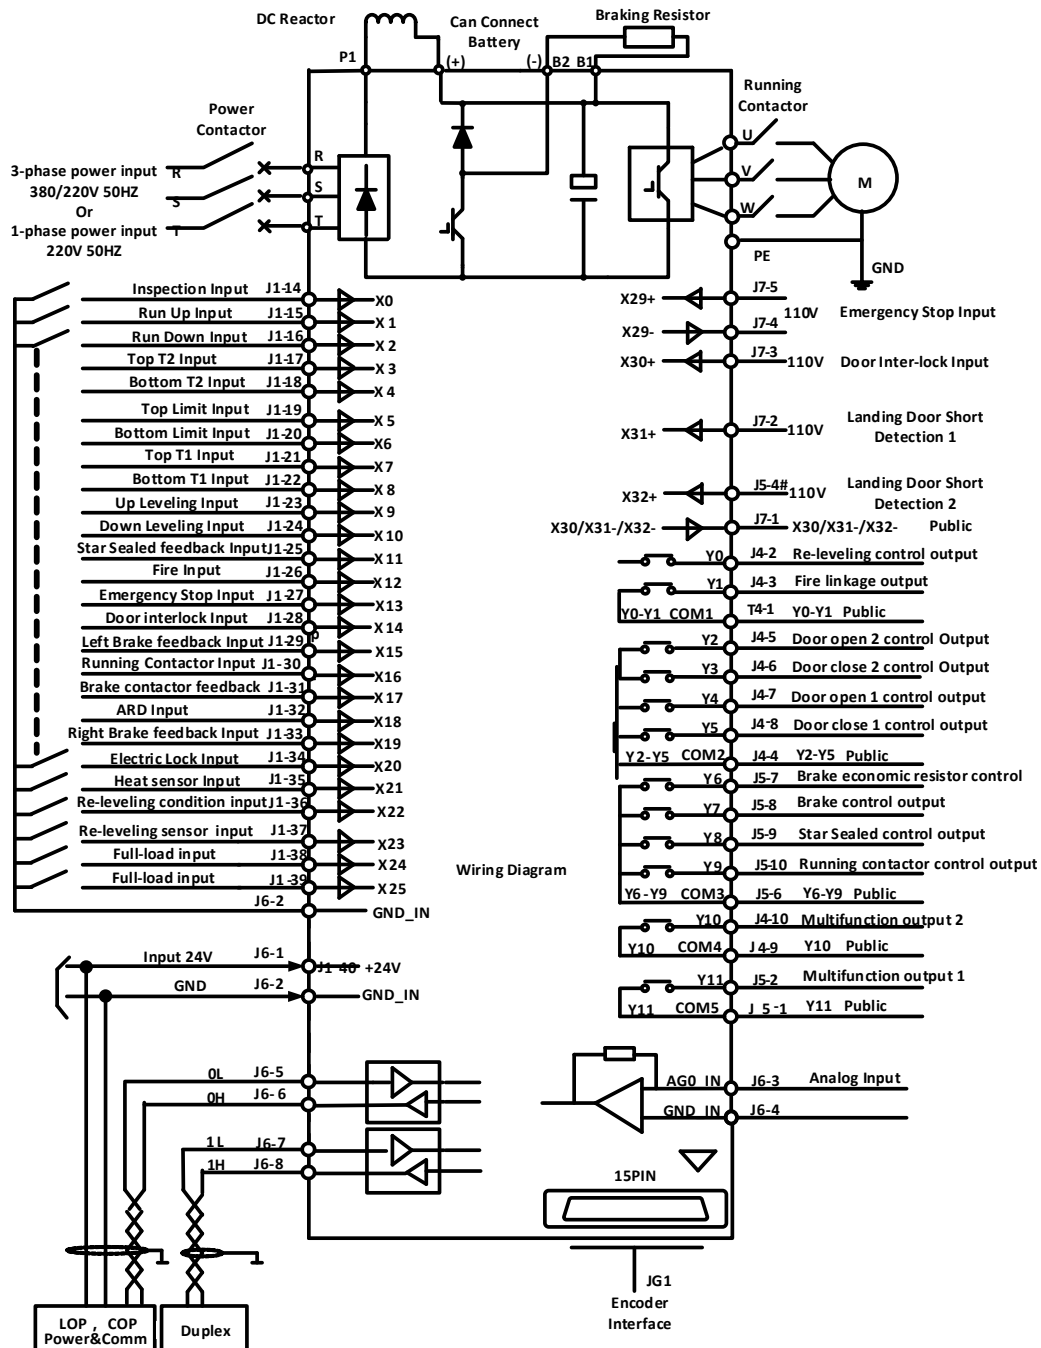

Figure 3.1 Terminal wiring Diagram for modularization elevator integrated controller
3.3.2 Terminal Connection for Control Circuit (Figure 3.1)